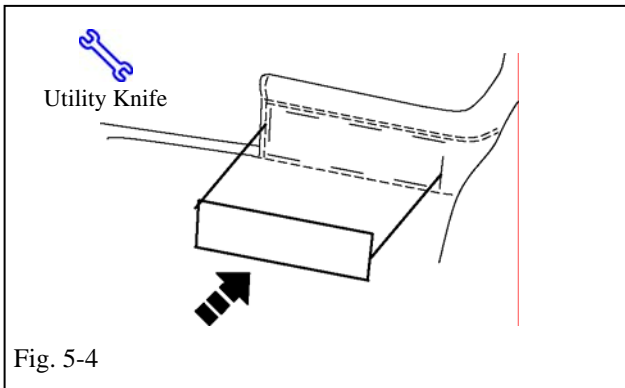

Fig. 5-4
- (d) Cut a section of the 1”X 63.5” from each side and attach to the top edges of the Bedrug. (Fig 5-4)